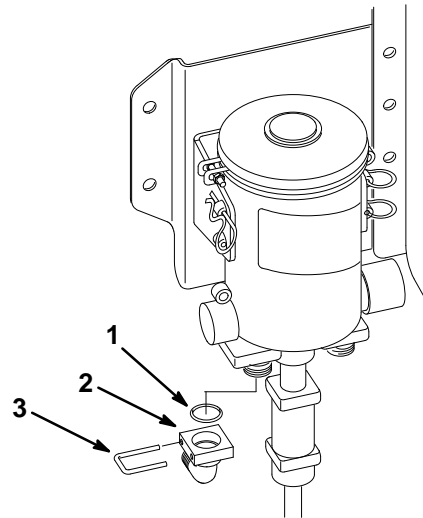

Figure 5
9. Install the new plastic pressure gauge fitting, and the barbed fitting removed in step 8 above into the new stainless steel fitting using pipe sealant (Fig. 5).
11. Install a O-ring seals, elbow fittings and interlock pins to bottom of liquid injector (Fig. 5).